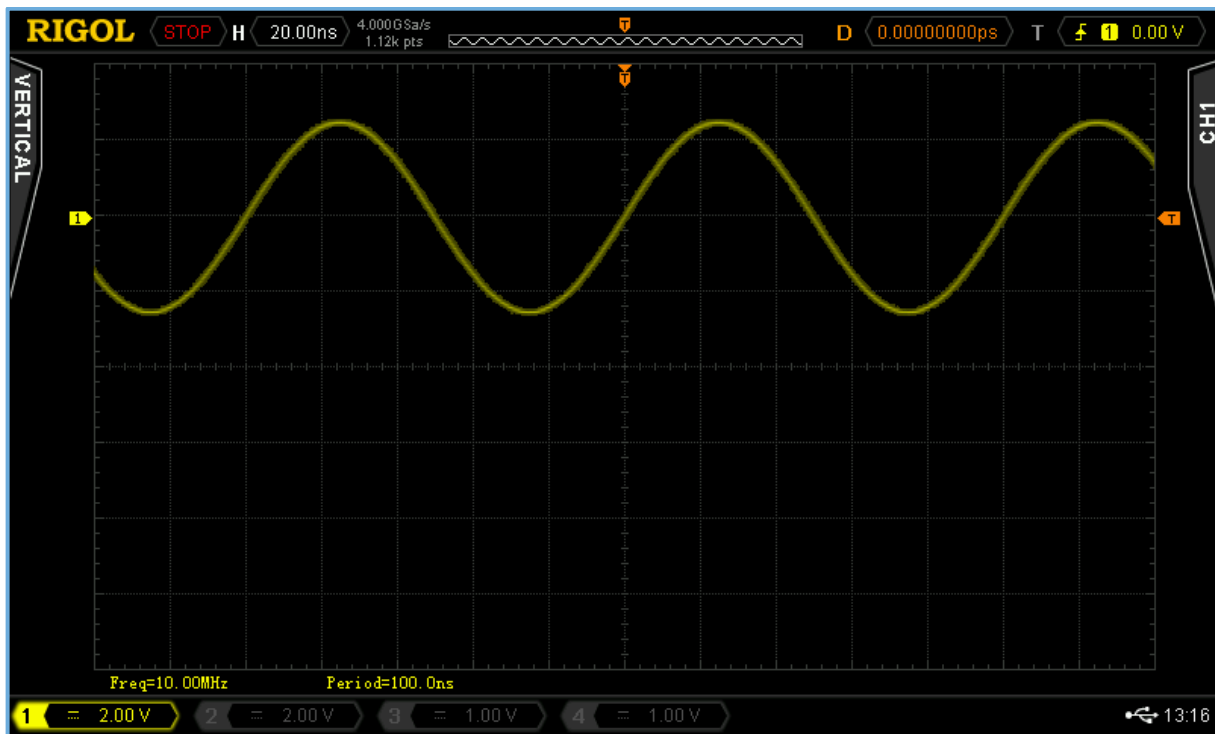

Figure 1-3: An oscilloscope displaying a sine wave with a frequency of 10MHz.
**Figure 1-2** showed a single sine waveform. **Figure 1-3** illustrates what happens when we source a 5V sine wave into an oscilloscope: